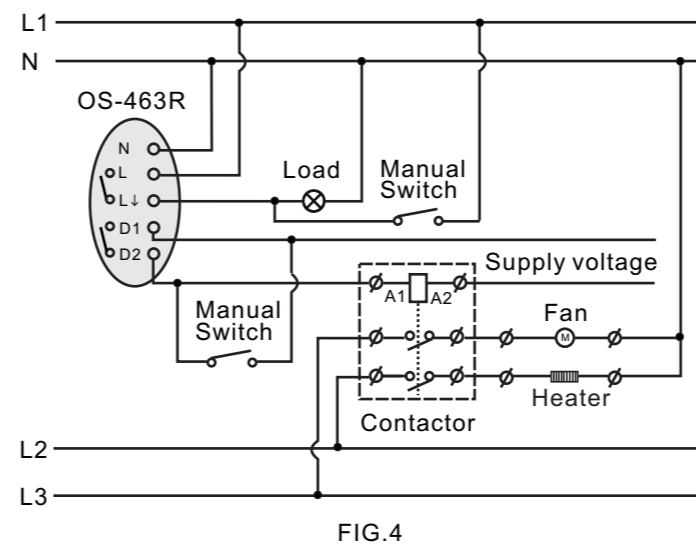
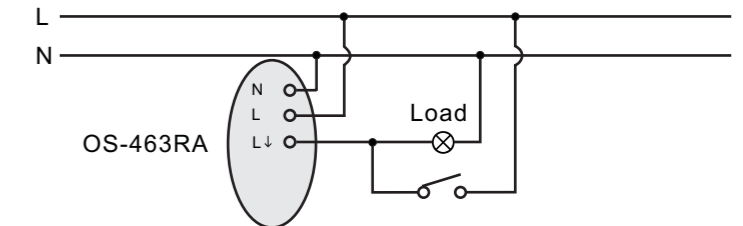

FIG.4
FIG.7
3.2.1 Two loads are controlled by one detector (See FIG.4).
3.2.4 One load is controlled by one detector (See FIG.7).
3.3.4 There are two ways of cable entry on the unit. One is fed into the bottom case (FIG. 11-A), another is fed into the side of the bottom case and outer cover (FIG. 11-B). Select your preferred cable entry and break its knock-out to feed the wires through, then screw the wires into the corresponding terminal blocks. Refer to the wiring diagrams. (see FIG. 4 to FIG. 7)
2. Incorrect wiring.	2. Refer to wiring diagrams (FIG. 4 to FIG. 7) and check if the load is malfunctioned.
4. Incorrect wiring.	4. Refer to wiring diagrams (FIG. 4 to FIG. 7).